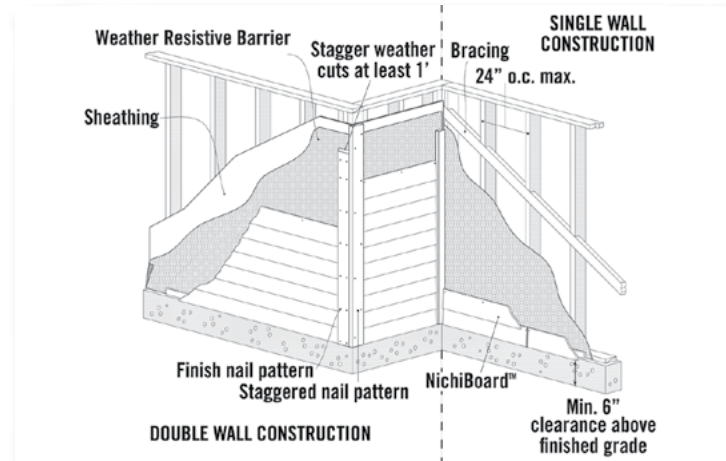

Fig. 3.1
- NichiBoard™ can be installed directly on braced wood or steel stud (20GA or heavier) construction spaced at a maximum of 24" o.c. or over sheathing with vertical solid wood or steel backing. (Fig. 3.1)